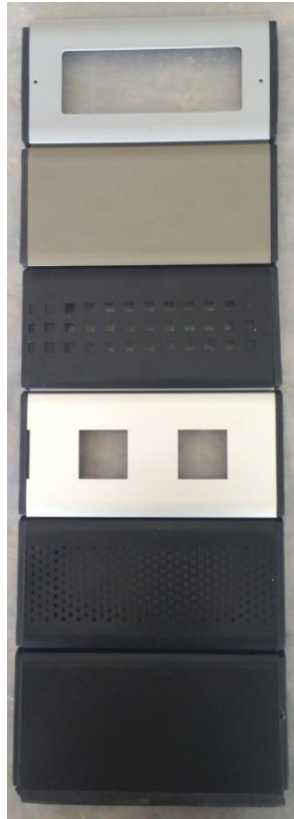

Figure 2: Perforated Blades
-« **R GAD07** » rectangular perforation, where the dimension of each rectangle is 148.9mm*53.9 mm.(figure 2)